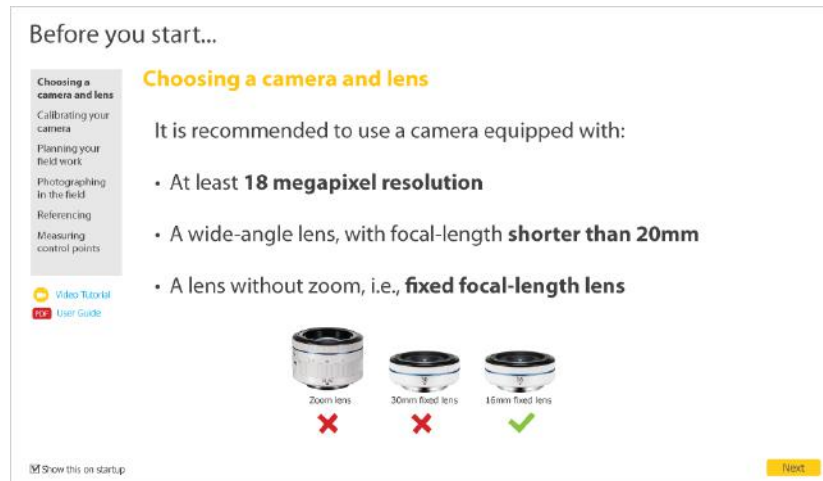

Figure 107: First Slide from Basic Steps Presentation
1. Click on **Before You Start** to open a series of pages containing explanations about the basic steps for using DatuSurvey™ (Figure 107 is the first slide of this series).